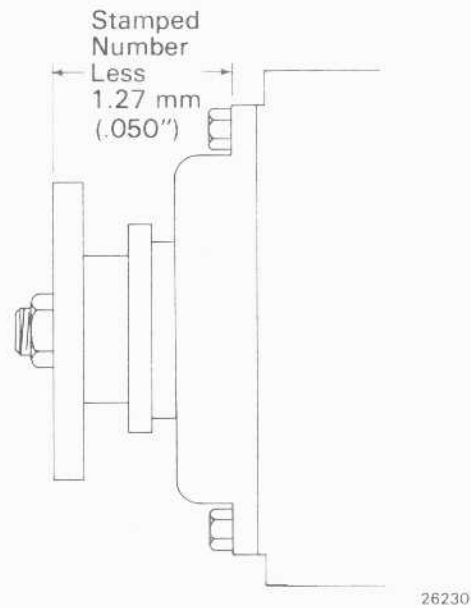

Fig.14 – Auxiliary Generator Drive Thrust Measurement (Single Stamped)
2. Subtract 1.27 mm (.050") from the number stamped on the support housing and adjust the position of the auxiliary generator to establish this dimension, Fig. 14.